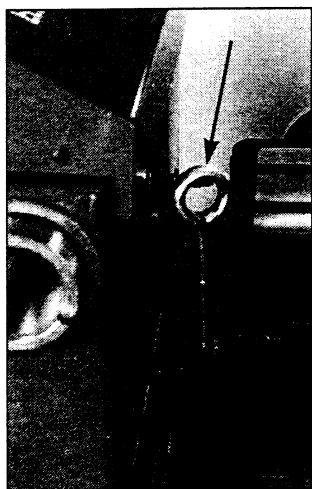

Figure 3
2. Remove the 4 bolts holding the lathe to the shipping pallet. Lift the lathe using the eye bolt provided (**Figure 3**). Do not lift the machine by the spindle, belt pulley cover, or either of the disc or drum cross slides. This could damage the lathe and would void the warranty on the unit.